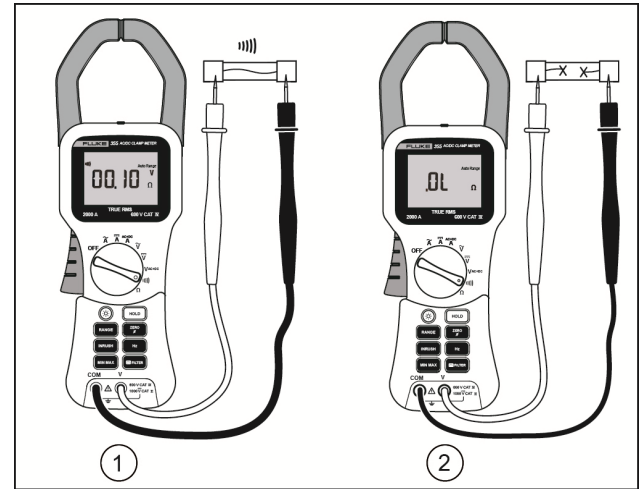

Figure 7. Measuring Continuity
4. If the resistance is $< 30 \Omega$, the beeper sounds continuously, designating a short circuit (①). If the display reads **OL**, the circuit is open (②) or above 399.9Ω . See Figure 7.